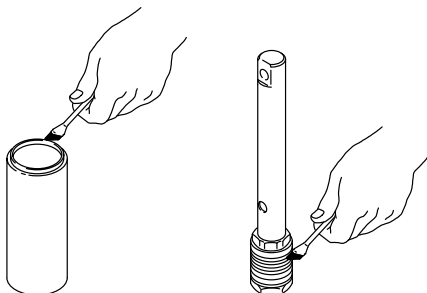

Fig. 31 02574
- Grease the piston packings and the top edge of the sleeve. See Fig. 31.